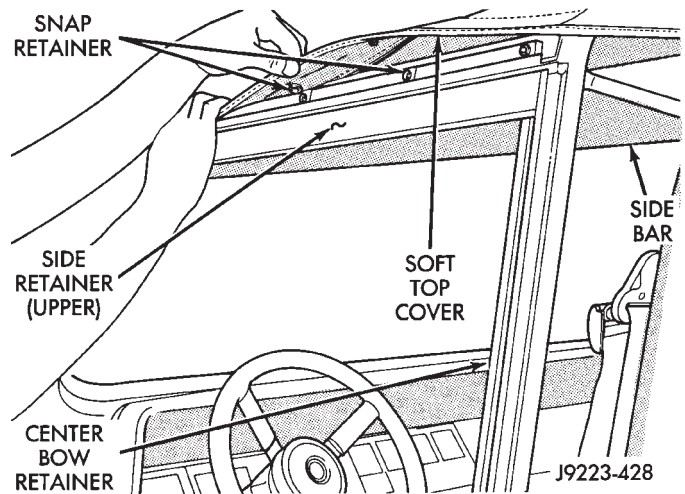

Fig. 109 Top Cover Snap-On Retainers At Upper Side Retainers
(16) Attach all the top cover snap-on retainers to the upper side retainers located above both doors (Fig. 109). As necessary, slide the mating half of the snap-on retainers so that they will align with the snap-on retainers on the top cover. Tuck the edge of the top cover inside the side retainer.